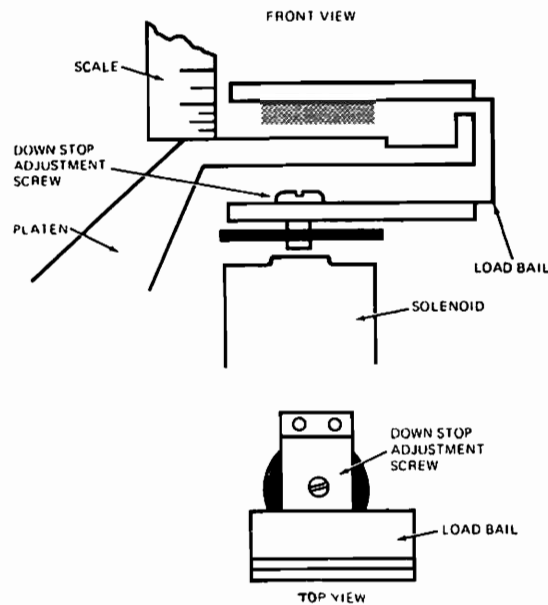

FIGURE 3 HEAD LOAD BAIL ADJUSTMENT
- c. Adjust the down stop screw to obtain  $3/16''$  to  $1/4''$  from the top flat surface of the load bail to the platen (Ref. Figure 3).